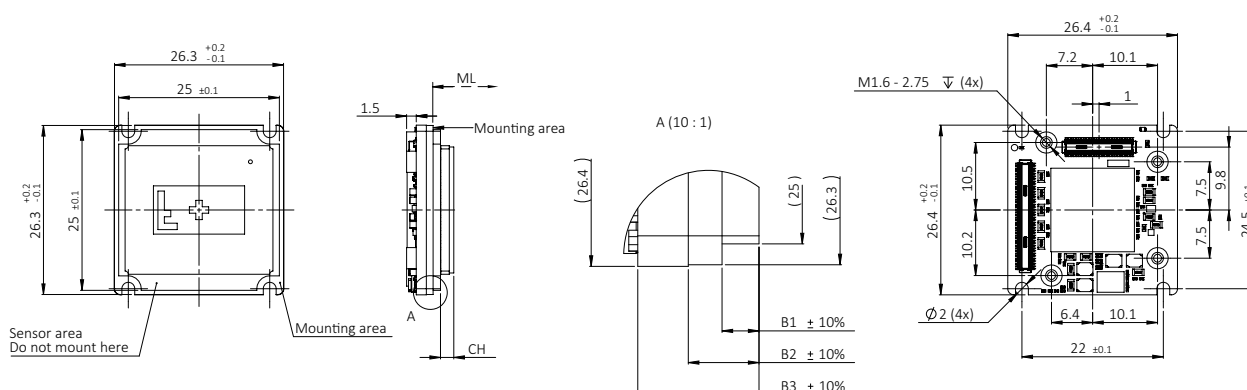

Figure 81: Bare Board (Alvium Flex) dimensions
Dimensions that are common between different models are shown in Figure 81. Model specific dimensions are listed in Table 100. **Mechanical length (ML)** defines the mechanical distance from the mounting area to the lens mount front flange, without optical filter. **Components height (CH)** relates to the electronic components with maximum height, in some cases the sensor.